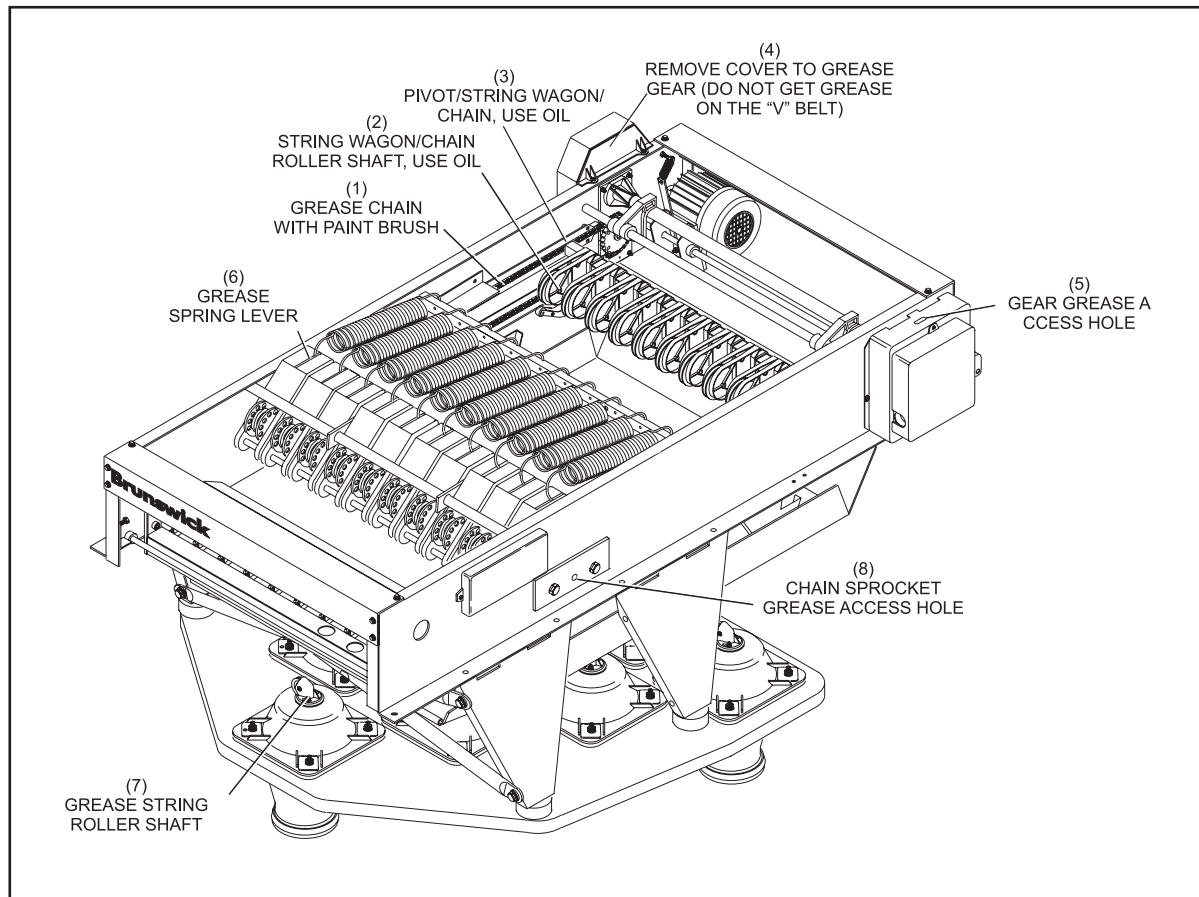

Figure 5-8. Lubrication Locations
- Apply grease to the chain with a paint brush to lubricate the chain's exterior. Refer to *Figure 5-8*
- Lubricate the chain with oil. This oil will penetrate chain links to lubricate the chain's interior. Refer to *Figure 5-8*.
- Apply oil to the pivot point where the string wagon is attached to the chain. Refer to *Figure 5-8*.
- Grease through hole in switch cluster over located on the right side of the rear of the pinsetter. Refer to *Figure 5-8*.
- Remove cover from the motor and gear assembly located on the left side of the rear of the machine and grease gear. Refer to *Figure 5-8*.
- Press grease in chain gears through hole in plate located on the outside of pinsetter frame adjacent to gear. Refer to *Figure 5-8*.